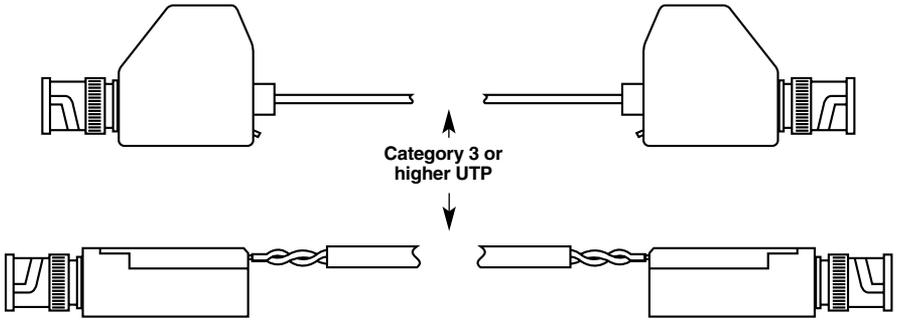

Figure 3-2. Two baluns cabled together.
- Plug or hardwire the other end of each UTP cable into the appropriate video wall outlet or patch panel. When this is done, a complete cabling circuit should run between the two baluns, as shown in Figure 3-2.